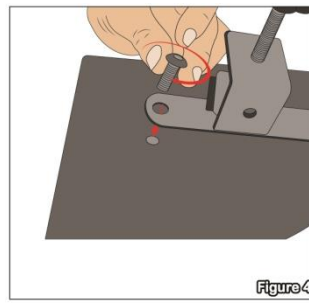

Figure 4
**Step 3** – Take the clamp (Part G) and screw it in at the back using M5 Screw (Part F). By this the panel can be mounted to a tripod vertical stand as this panel is heavy. A speaker stand will also work. Then screw in the back knobs to clamp the shield to the vertical stand. (See **Figure 4 and 5**)